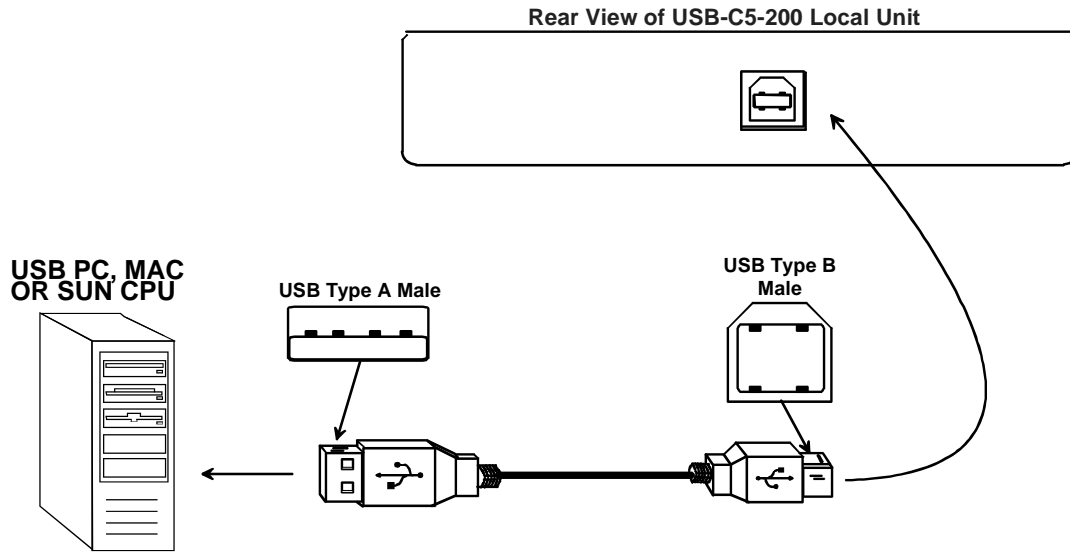

Figure 1- Connect device cable to the Local Unit
1. Connect the USB2-AB-1M-5T USB cable from the Local Unit to the back of the CPU. (See Figure 1.)